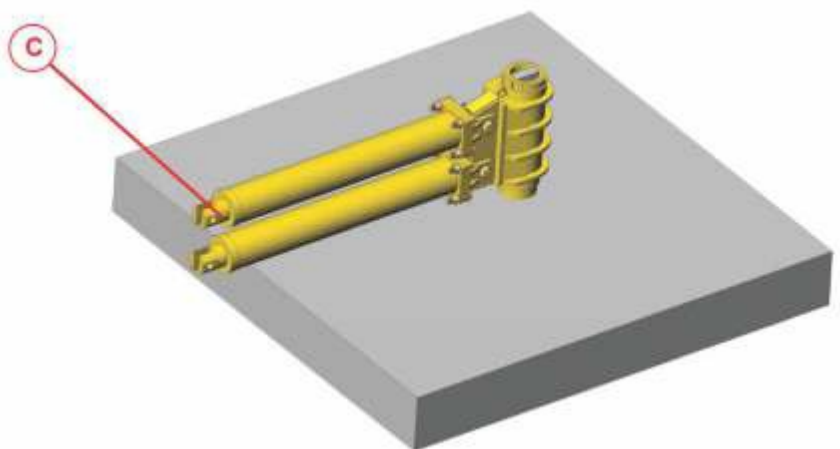

Figure 7b
*Inspect the pistons for leaks. If the pistons were to leak, the most likely place would be at the rod seal (c) Figure 7b on front of the piston. If the pistons are leaking, call your FNSS representative.*